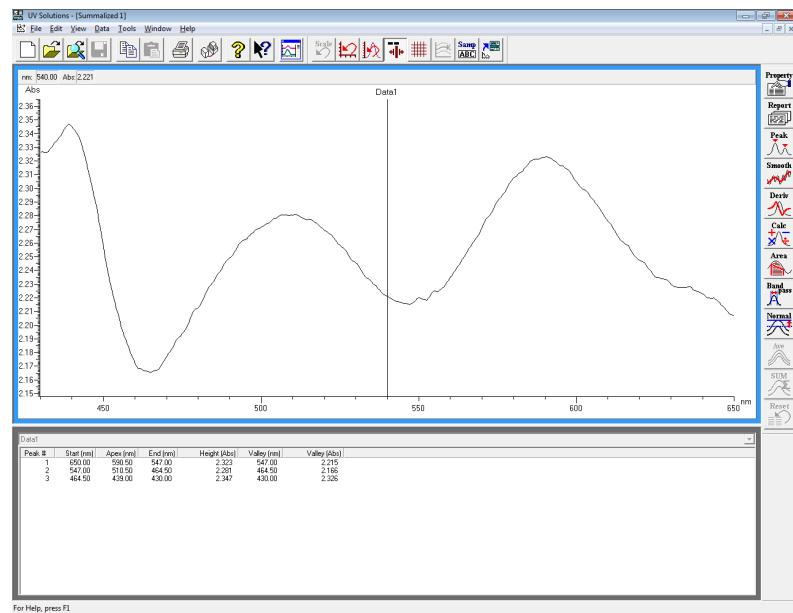

Fig. 5-84
(3) The sum of spectra is displayed. (Refer to Fig. 5-84.)